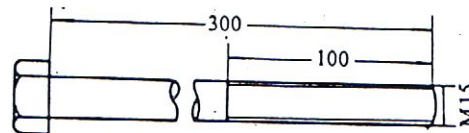

Fig. 31 Steel bolt for withdrawing cylinder liner
② Thread a 15mm, fine thread,  $\times 300$  bolt—Fig. 31—up through the plate and centrally up the liner. Put a plate-A in Fig. 32—over the bolt and support it on packing pieces—Fig. 33—that are clear of the liner flange and the locating dowels. Tighten a nut against the top plate to withdraw the liner.
(3) Before replacing the liner, clean the bore at the bottom of the liner housing to remove any deposits but be sure not to scratch the bore.
(4) Clean the sealing ring grooves and smear a little soap or engine oil around them to ease the task of fitting the rings.
(5) Use new sealing rings if possible and fit them into the grooves without twisting them.